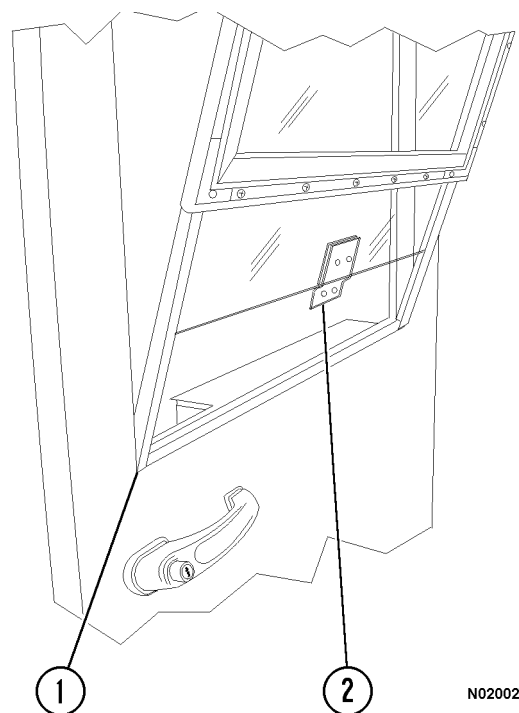

FIGURE 2-12.
10. Lift the door glass up in frame (1, Figure 2-12) so that it is near the top. While holding the glass in place, tilt the frame out at the top. Lift the frame and glass straight up and out of the door.
Bracket (2, Figure 2-12) at bottom of glass must clear the door frame if still on the glass.